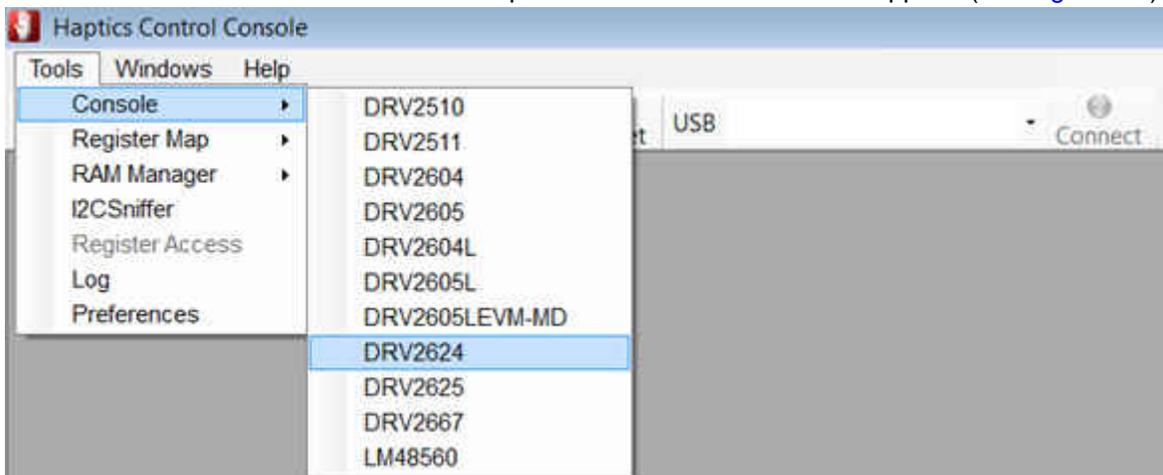

Figure 6-2. Supported Haptic Drivers
1. Select Tools → Console to see a list of the haptic drivers that the HCC GUI supports (see Figure 6-2).